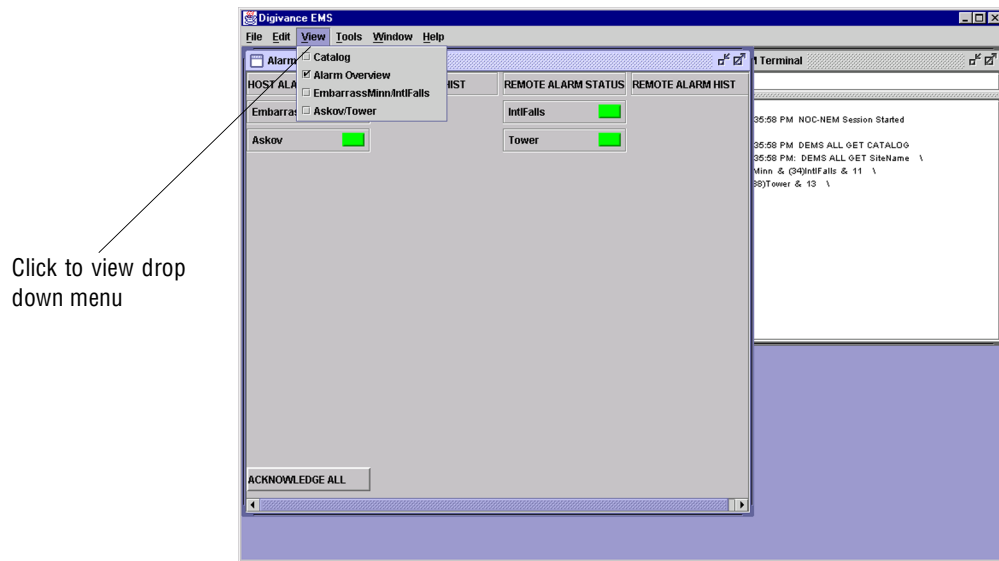

Figure 3-1. Digivance Element Management System Main Window
- Start up the EMS Version 3.01 software program. The EMS main window will open as shown in Figure 3-1. Note: The EMS software should be installed on a PC-type computer and the PC's COMM port should be configured to interface with the HU. For information about installing the EMS software and configuring the PC's COMM port, refer to the Digivance Element Management System Version 3.01 User Manual (ADCP-75-151).